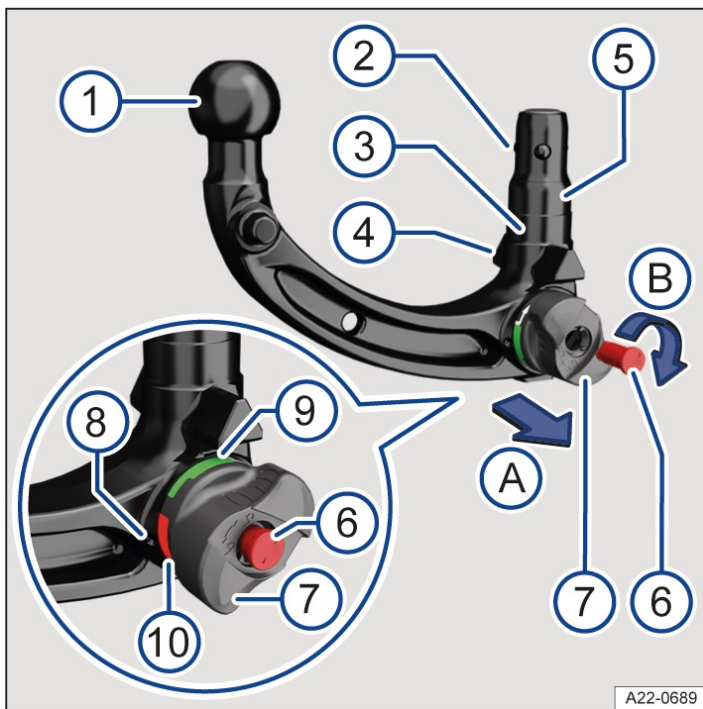

Fig. 1 Overview: removable ball coupling.
1. Before using the removable ball coupling for the first time, make a note of the number stamped on the key → Fig. 1 ⑥. This can be used if you need to acquire a replacement key.
4. Check that the mounting, handwheel → Fig. 1 ⑧, shank ⑤ and retaining balls ② of the ball coupling are all clean and not damaged → ①. Clean if necessary.